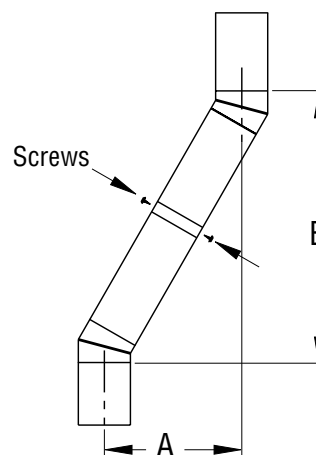

Figure 7 - Elbow Offset
assure joint between chimney sections is locked. Check by pulling chimney upward after locking. Chimney will not come apart if properly locked. It is not necessary to add screws to keep chimney together (exception, see Figure 7).
4. All pipe connections between the offset and return must be secured with two screws on the outer pipe only (see Figure 7, page 7). Do not penetrate the inner stainless.